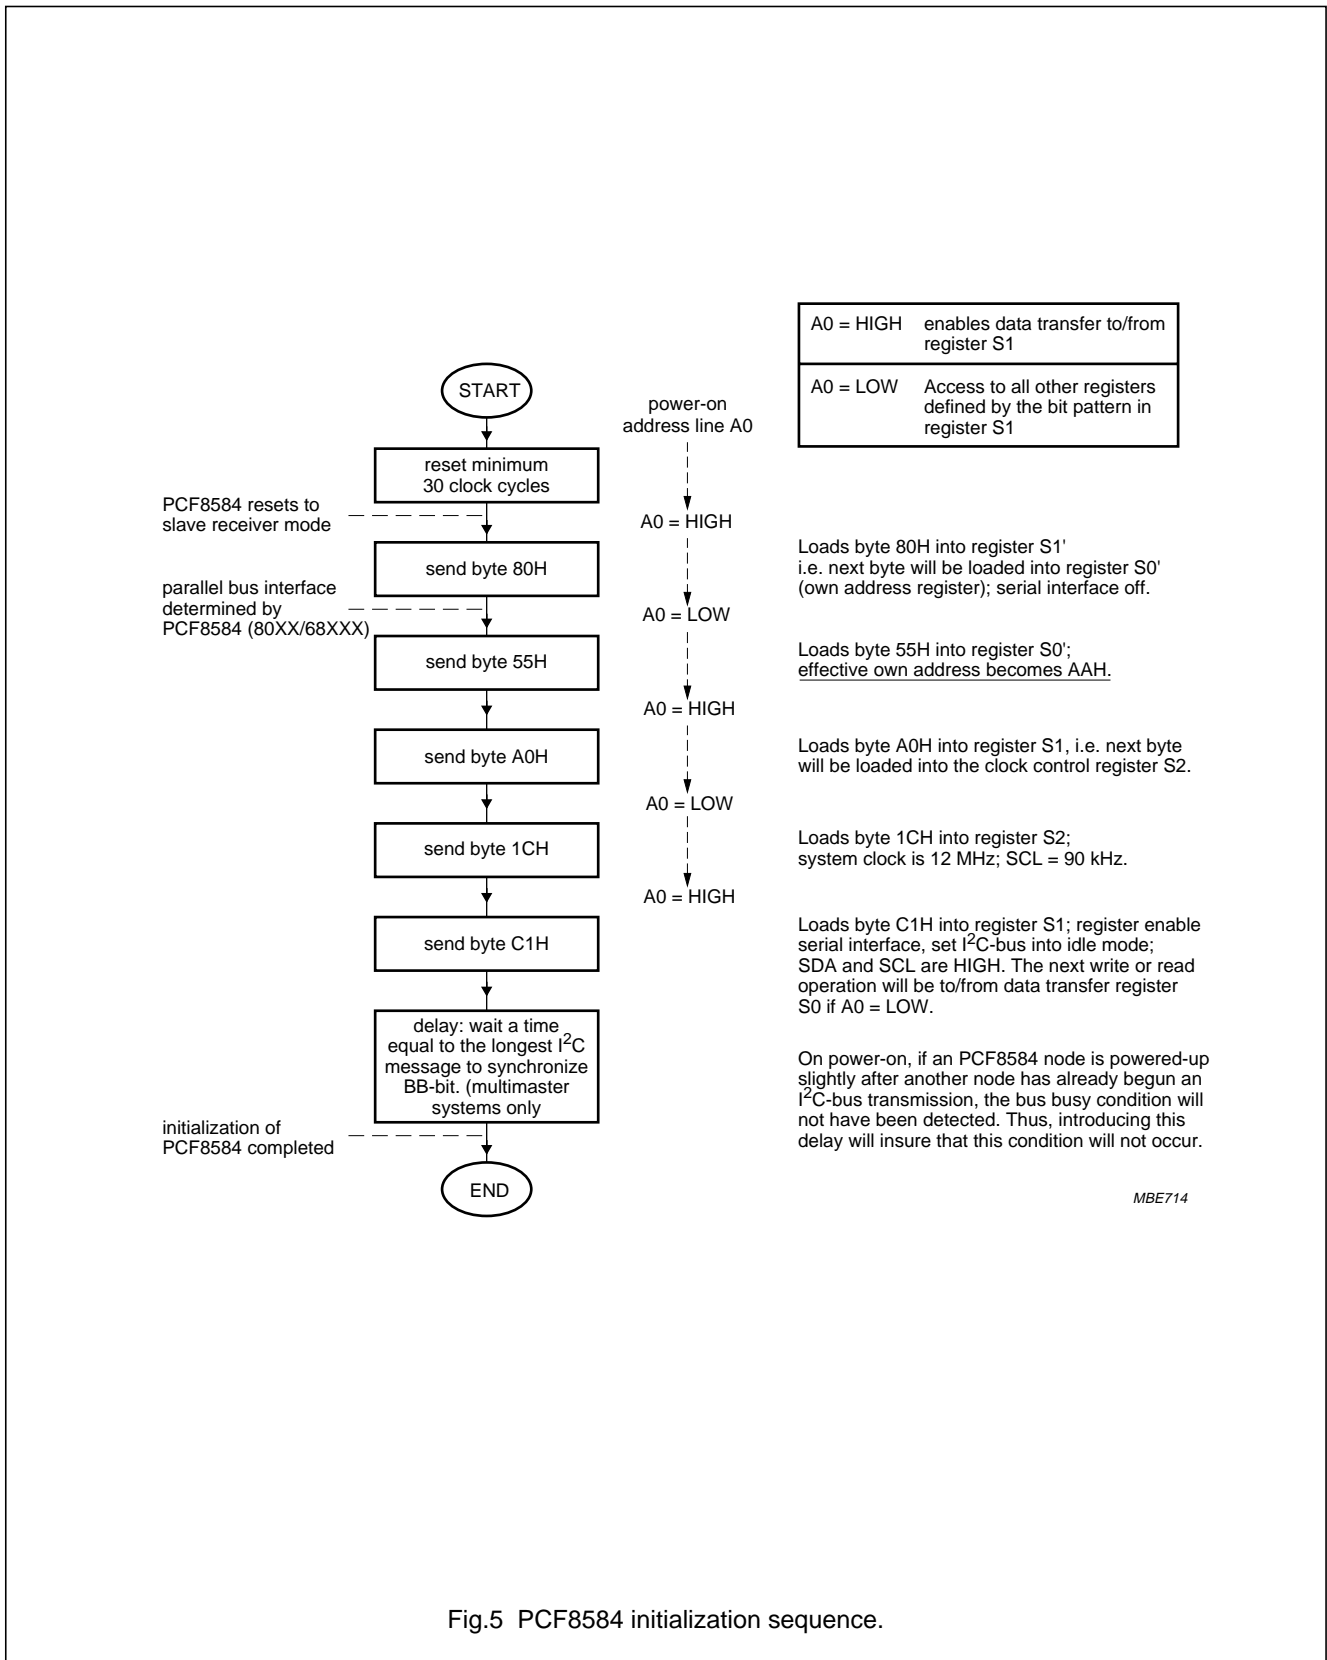

Fig.5 PCF8584 initialization sequence.
- When powering up multiple PCF8584s in multi-master systems, the possibility exists that one node may power up slightly after another node has already begun an I²C-bus transmission; the Bus Busy condition will thus not have been detected. To avoid this condition, a delay should be introduced in the initialization sequence of each PCF8584 equal to the longest I²C-bus transmission, see flowchart 'PCF8584 initialization' (Fig.5).
The flowchart of Fig.5 gives an example of a proper initialization sequence of the PCF8584.